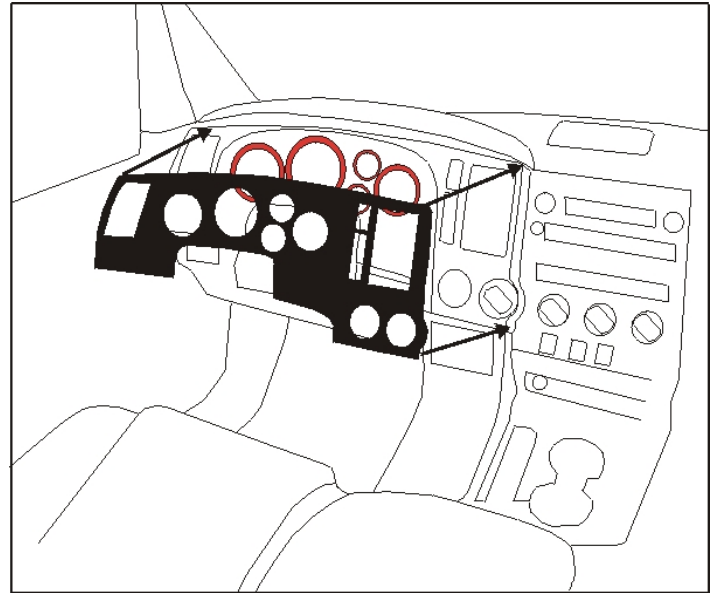

Fig. 3-1
- ⚠ (1) Align part uniformly to edge of factory component. Insert the speedo gauges, highlighted in red, through the applique followed by pressing the right edge of the IP appliqué into the groove between the factory core and the applique trim edge. (Fig. 3-1)
- (2) Gently touch part into position.